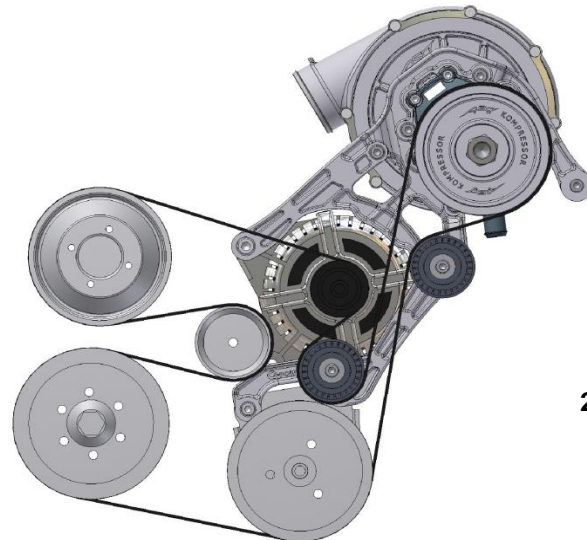

Figure 26
14. Install the belt. Pay attention to proper belt routing (Figure 26).